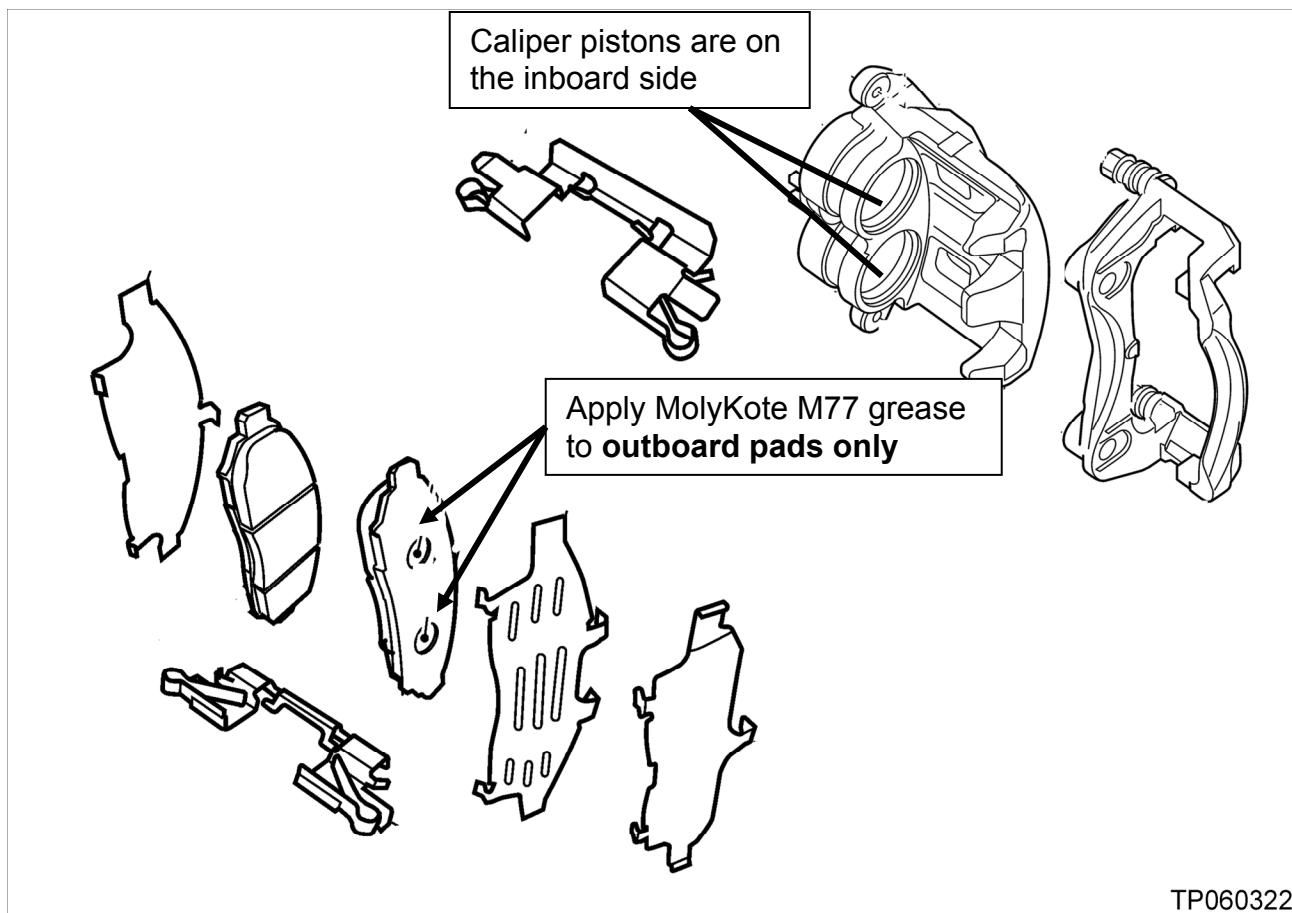

Figure 1
- Make sure the shims are installed as shown in Figure 1.
- Apply Molykote® M77 grease to the back side of the **outboard** brake pads **ONLY** (see Figure 1).